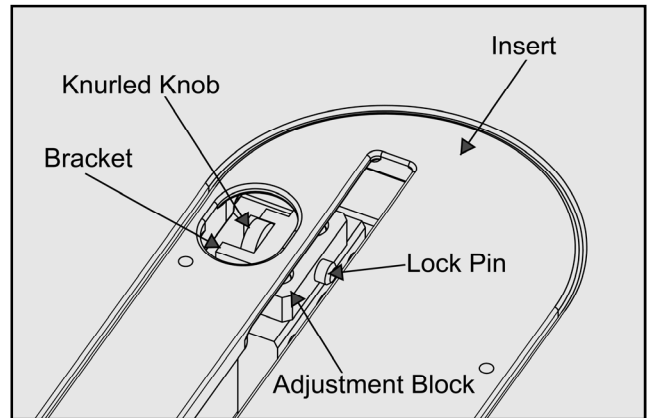

Fig. 14
1. Reinstall the table insert, slide the knurled knob out (refer to **Fig. 14**) and rotate it forward so it engages the upper bracket.